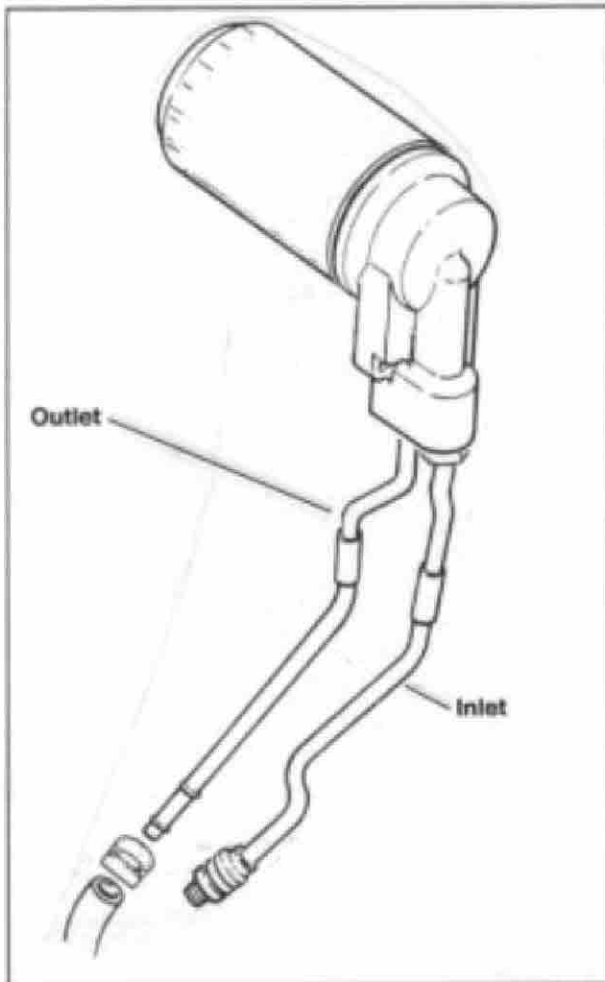

Figure 9. Oil Filter Mount - 1992; All 1340cc Models
1. See Figure 9. Locate the point on the oil return line (to oil tank) where the steel/chrome line joins the rubber hose. Remove the clamp. Remove the hose from the steel line. Use a pan to catch the oil which may spill.